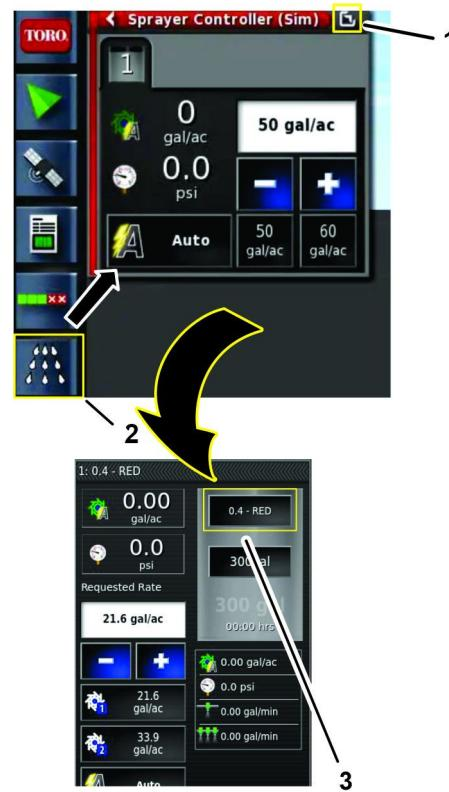

Figure 156
- Press the SPRAYER CONTROLLER icon and press the expand view icon in the sprayer-controller panel (Figure 156).